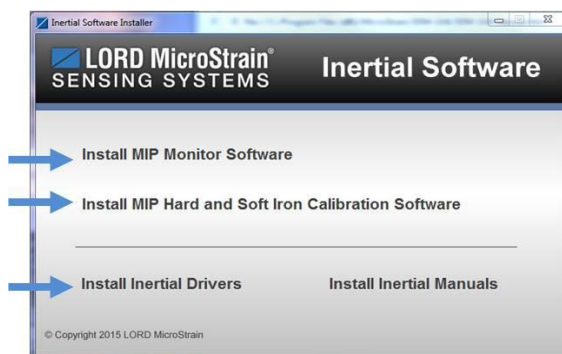

Figure 4 - Software Installation Menu
2. In the software installation (Figure 4 - Software Installation Menu) menu select "Install MIP Monitor Software" and follow the on-screen prompts to completion.